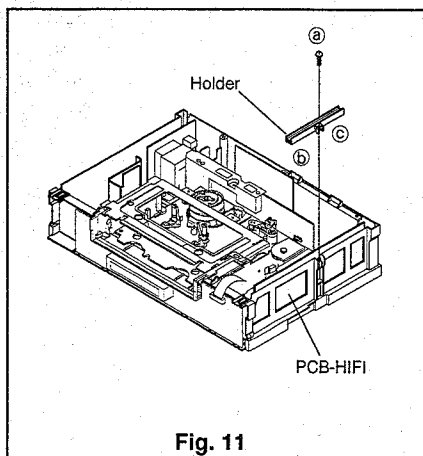

Fig. 11
- (1) Remove a screw (a) and unfasten two snaps (b and c) as shown in Fig.11.
- (2) Disconnect the connectors (HB, HC) and raise the PCB-HIFI upward to remove it.